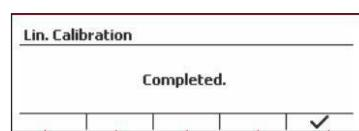

Figure 19
7. The message "Completed" will display on screen. (See Figure 19)